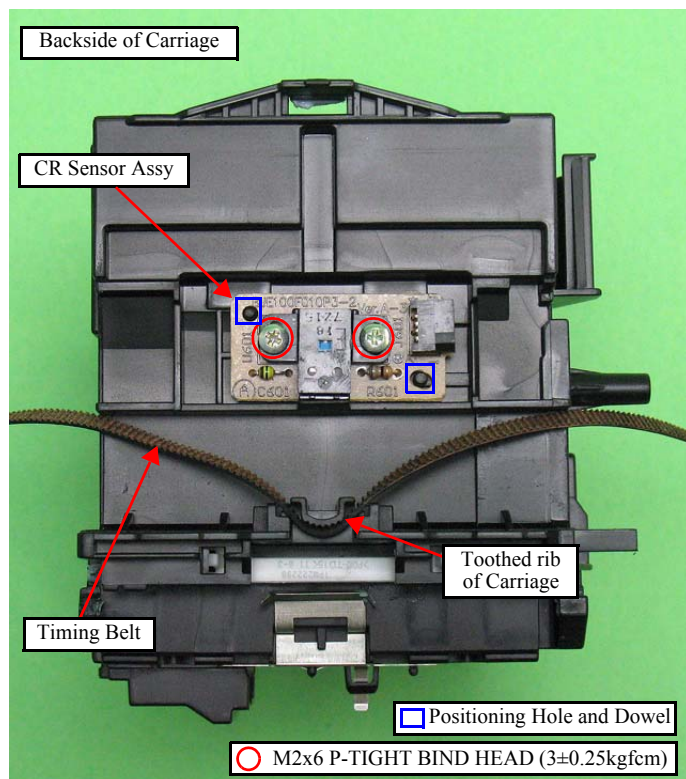

Figure 4-81. Removing the CR Unit (4)
- Align the toothed side of the Timing Belt with the same shaped rib of the Carriage without any twist. (See Fig.4-81.)